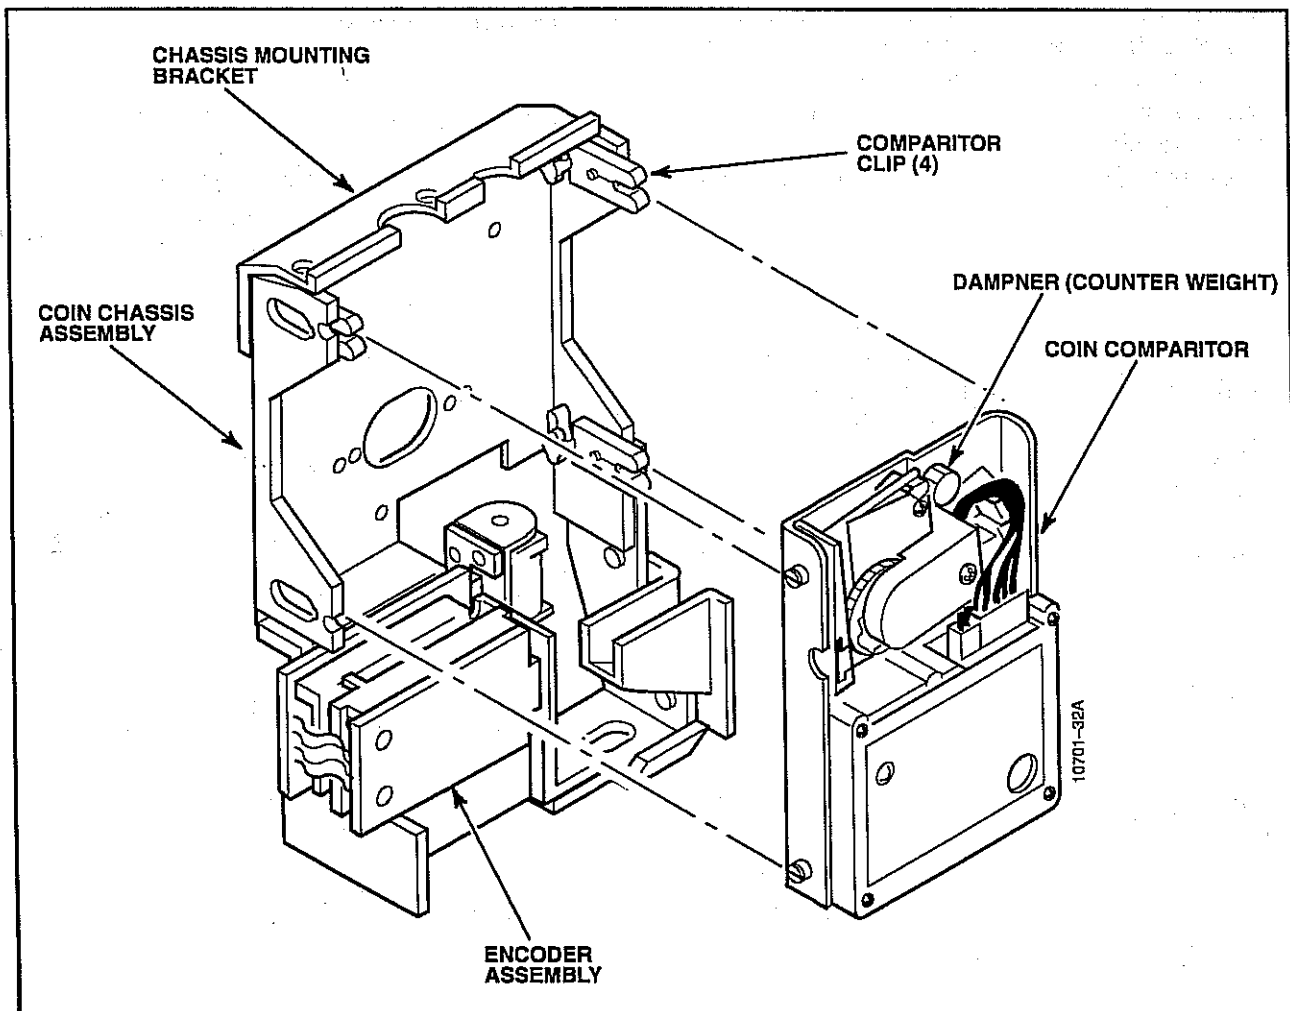

Figure 5-9. Coin-In Assembly with Electronic Comparitor.
The coin-in assembly discussed in this section utilizes a Coin Mech coin comparator for checking coin validity and re-routing rejected coins to the coin tray (see Figure 5-9, Coin-In Assembly).
To remove the coin-in assembly from the machine for inspection, cleaning, adjustment or repair, see Figures 5-9 and 5-12 proceed as follows.
3. Hold the coin chassis in place and remove the two 6-32 Sems screws that secure the coin chassis to the coin chassis mounting plate (see Figure 5-9, Coin-In Assembly with Electronic Comparator).
Refer to Figures 5-9 and 5-11, and proceed as follows.
The following procedures describe how to completely disassemble and assemble the coin-in assembly, for repair or to make a denomination change. See Figure 5-9, Coin-In Assembly with Electronic Comparator, and proceed as follows.